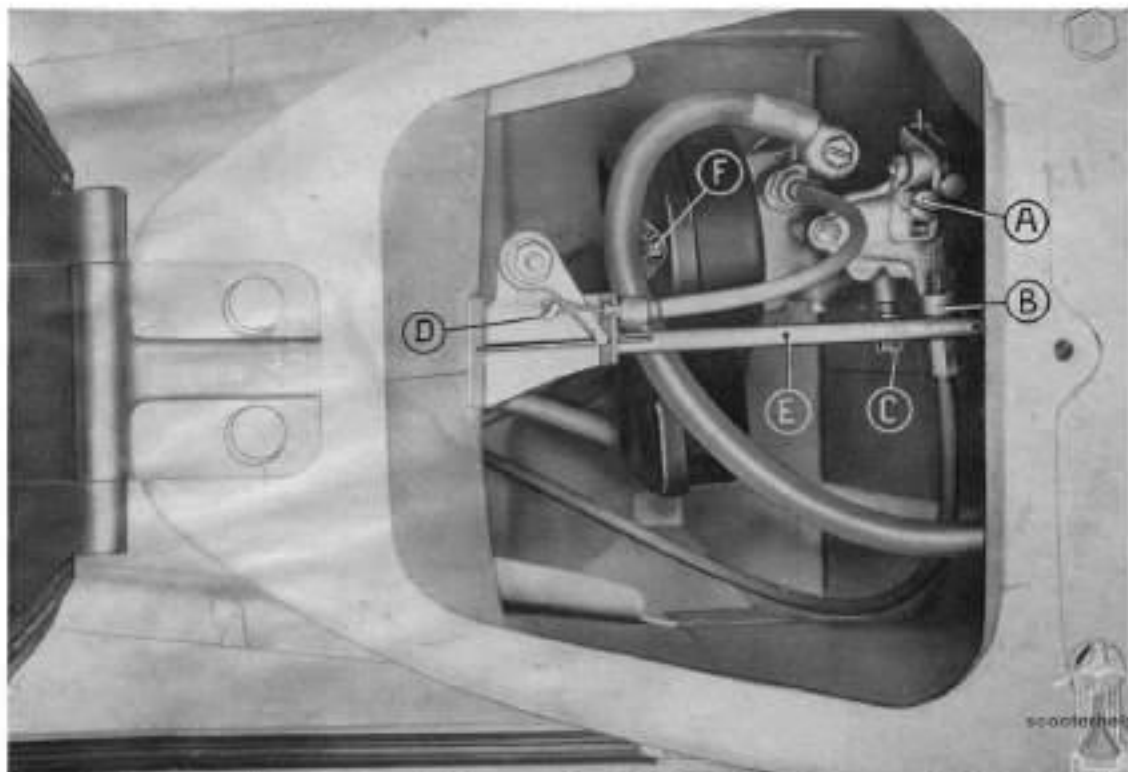

Fig. 12 - To approach the carburetor and air cleaner assy. (For details indicated on the figure, see pag. 16 - 18).
- On the carburettor body a set screw ($\times B \times$ fig. 12) is provided for adjusting the throttle cable play; this screw is to be reset **only if necessary** or on dismantling and reassembly operations.
- On the air cleaner case, there is a spring loaded screw for adjusting the volume of mixture from idling jet (fig. 9, n. 3 and fig. 12, $\times C \times$).
DISMANTLING AIR FILTER	— For dismantling the air filter, pivot the seat forwards (fig. 5); remove the tool box and the choke control cable (the cable end ring can be seen on Fig. 12, «D» then dismount the fuel tap rod (see Fig. 12 «E»); next unscrew the two tee head bolts (Fig. 12 «F») securing the air filter case and extract it.